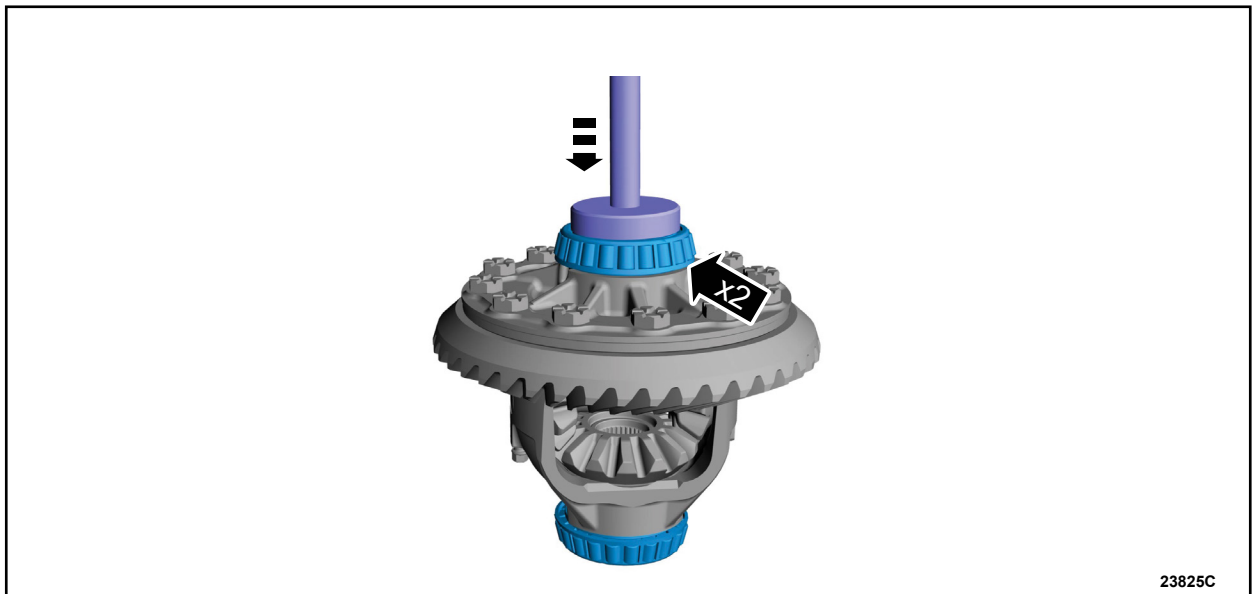

FIGURE 3
10. Install the new differential bearings. See Figure 3.